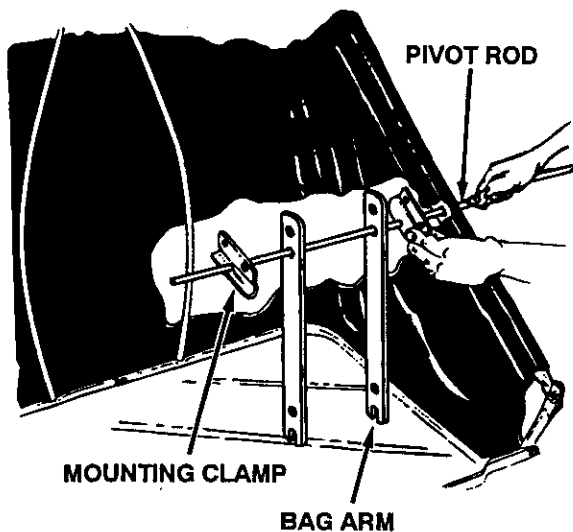

FIGURE 17
- Slide the hopper bag pivot rod through the side of an upper hopper tube where the hole was pierced. Assemble onto the rod a mounting clamp, two bag arms and another mounting clamp as shown in figure 17. Push the rod on through the other upper hopper tube on the opposite side of the bag.